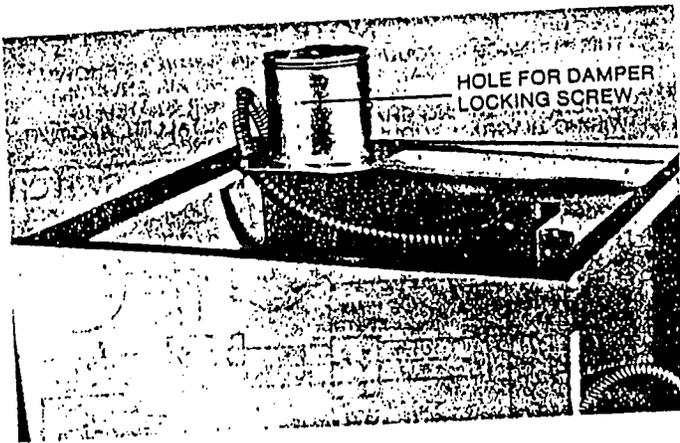

FIGURE 13
If, for some reason, the homeowner desires to block the damper shut for any length of time, a screw hole has been provided in the furnace fresh air damper assembly which allows a screw to be inserted and "lock" the damper closed. The homeowner must remember to remove the screw when he wants the system to be fully functional again. See page 6 figure 13.
1. Orient the Blend Air damper over the pilot screw holes at back, right corner of furnace top and attach with 3 sheet metal screws provided. The 3 holes in a vertical column on the damper assembly tube should be toward the left of the furnace. See Figure 13.